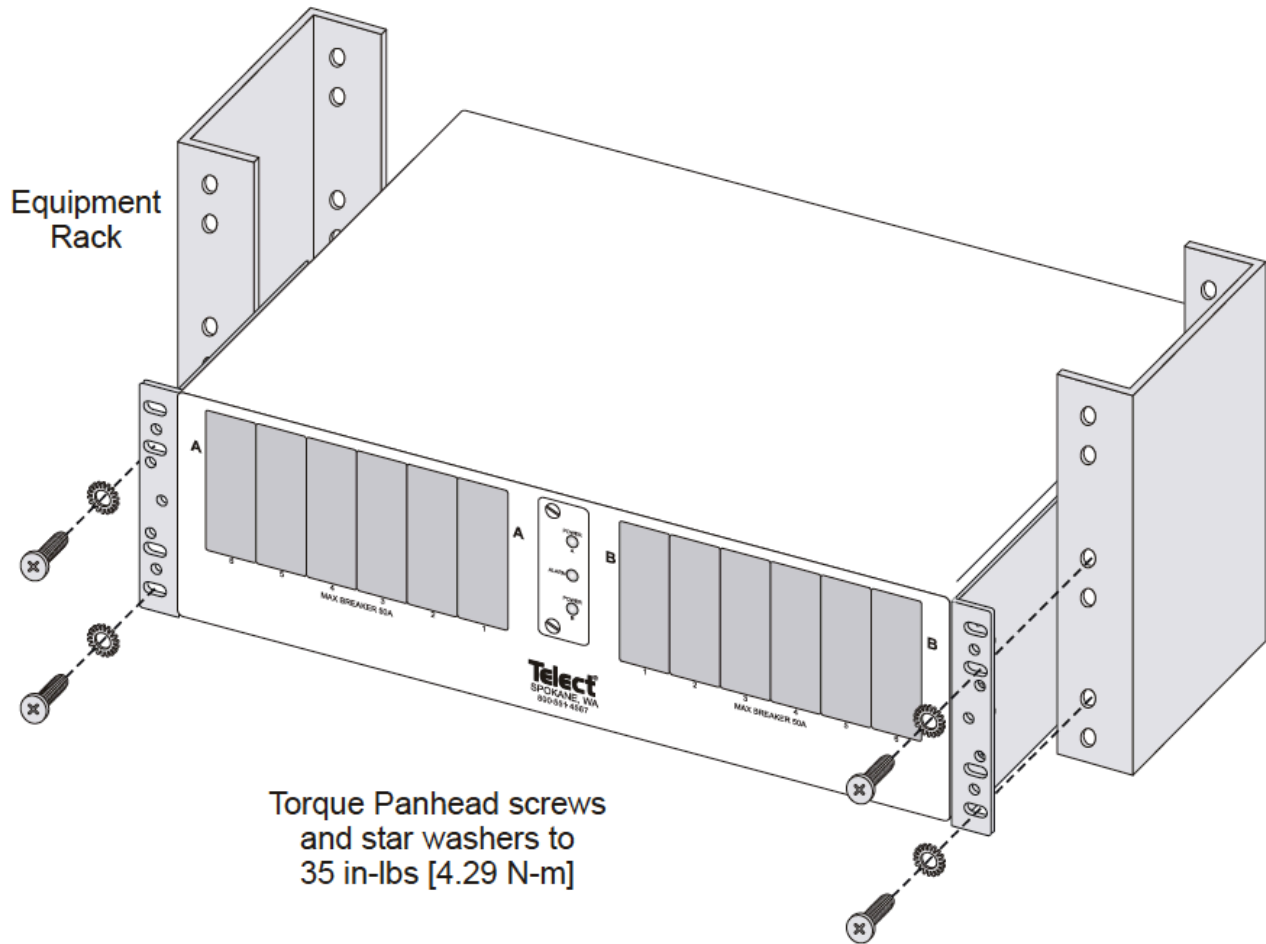

Fig. 3: Rack Mounting
2. Locate an unused rack position and mount the panel using at least two sets of fasteners (screws and star washers provided) per side, as shown in Figure 3. (Mount the panel as high as possible on the rack.)